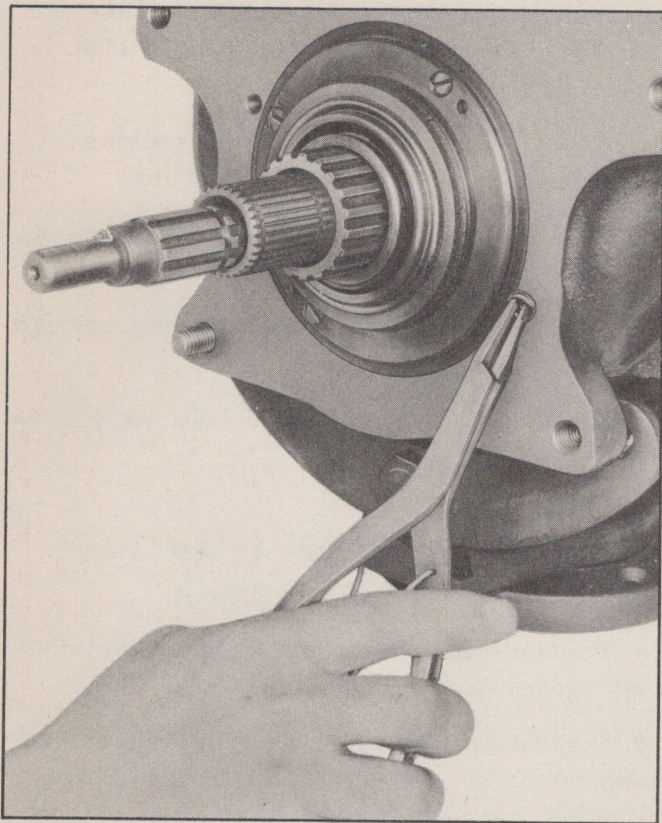

Fig. 296—Installing Locating Washer
4. Install pump cover locating washer in counterbore (Fig. 296).